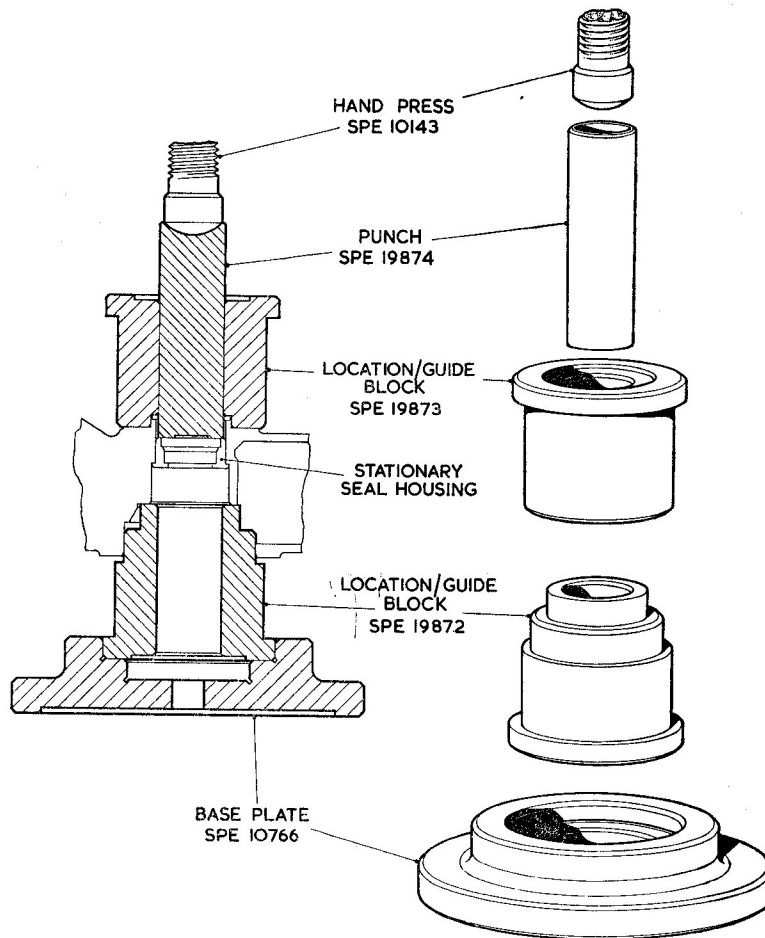

Fig. 8. Tools for removing the stationary seal seat
- (2) If damaged or otherwise faulty the seal seat (73) should be removed by pre-heating the casting to approximately 200°F, using the special tools illustrated in Fig. 8 to press the seat from the casting.
- (3) Remove the gland drain union body (42) and washer (41) to complete the dismantling of the pump unit.